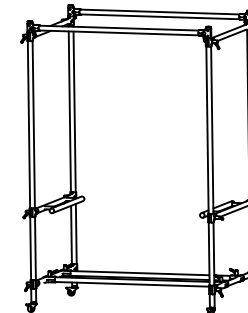

fig. 2
2. As Fig. 2, extend the 4x tube A in Fig. 1 by another 4x tube A. Then attach 2x tube B and 2x tube D on them by T-clamps.